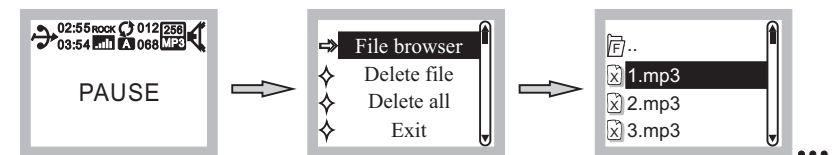

Fig. 25
- (L) Directory Selection:
- (1) File Browser: Press ▶▶ during playback and screen displays PAUSE. Press & hold ▶▶ to enter the directory option. Press ◀◀ or ▶▶ to sequentially select the directory option, Fig. 25.